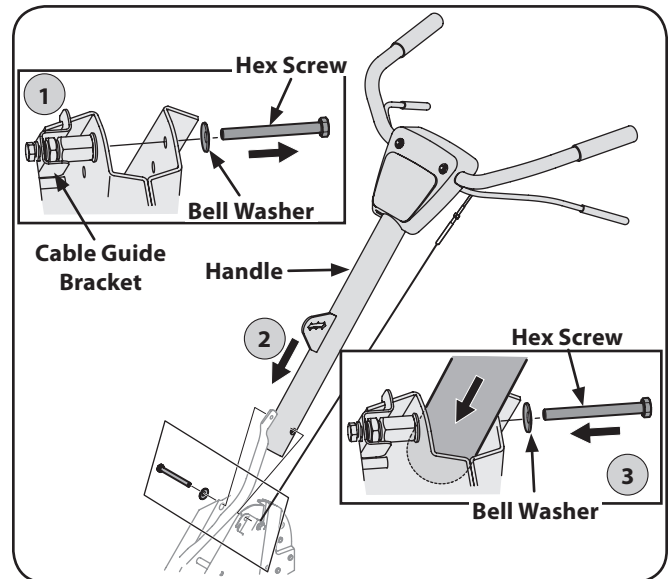

Figure 3-3
3. Remove the hex screw and bell washer from the right side of the frame. Hold the cable guide bracket on the left side of frame as it will fall when the bolt is removed. Step 1 in Figure 3-3.
4. Insert the handle into tiller frame as shown. Step 2 in Figure 3-3.
5. Insert the bolt through the cupped washer, frame, handle and into the cable guide bracket (note the notch in the cable guide bracket goes over the flange on the frame.) Step 3 in Figure 3-3.